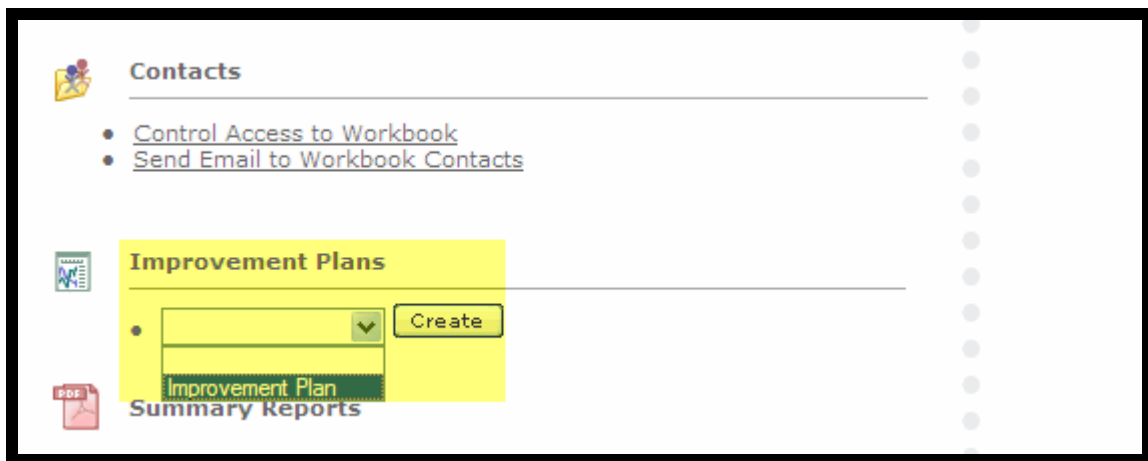

Figure 81
1. From the **Workbook Menu**, select **Improvement Plan** from the **Improvement Plans** drop-down box located on the bottom left of the screen (Figure 81).